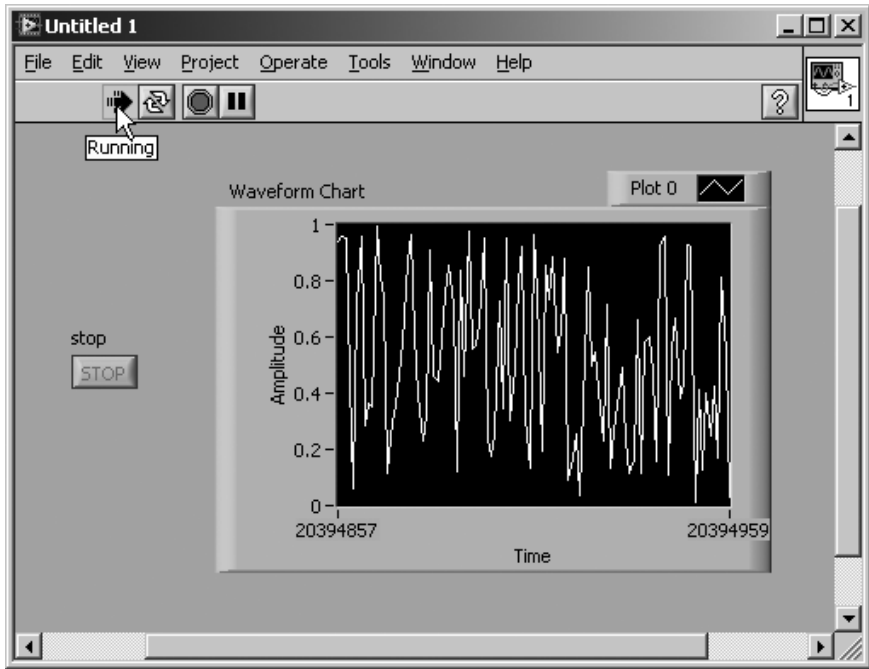

Figure 3.29
10. You should be about ready to run your VI. First, switch back to the front panel by selecting **Show Front Panel** from the **Window** menu. Now click on the run button to run your VI. You will see a series of random numbers plotted continuously across the chart. When you want to stop, click on the stop Boolean button using the Operating tool (see Figure 3.29).